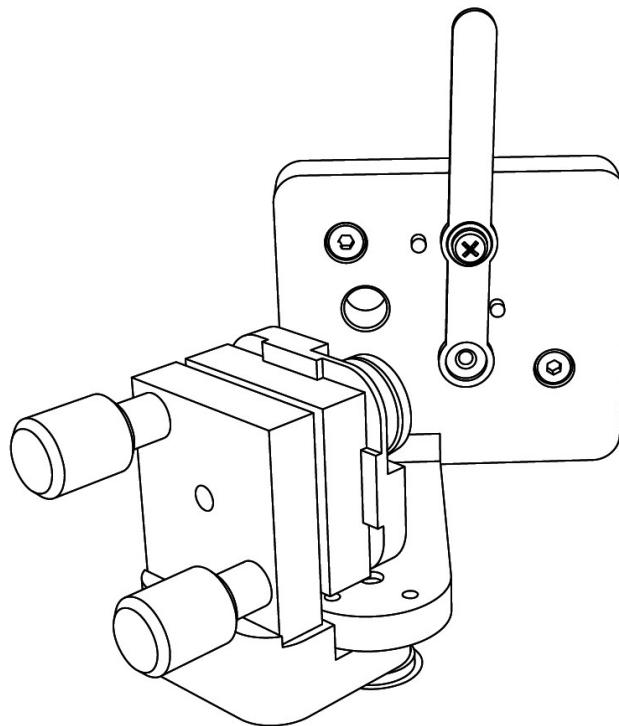

Figure 5.8.: Alignment aperture - measurement position
8. Bring the alignment aperture back into the measurement position (see Figure 5.8) after the beam is centered on the aperture.